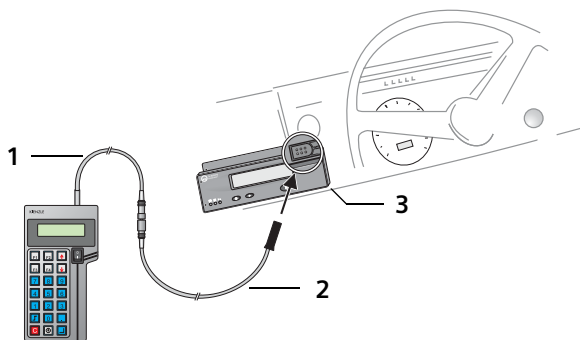

Fig. 9: Connecting the HTC+ to the Veeder Root 2400 (TVI Europe)
1. Connect the HTC+ (1) to the Veeder Root 2400 (TVI Europe) (3) via the TVI diagnosis cable (2) as illustrated in fig. 9.